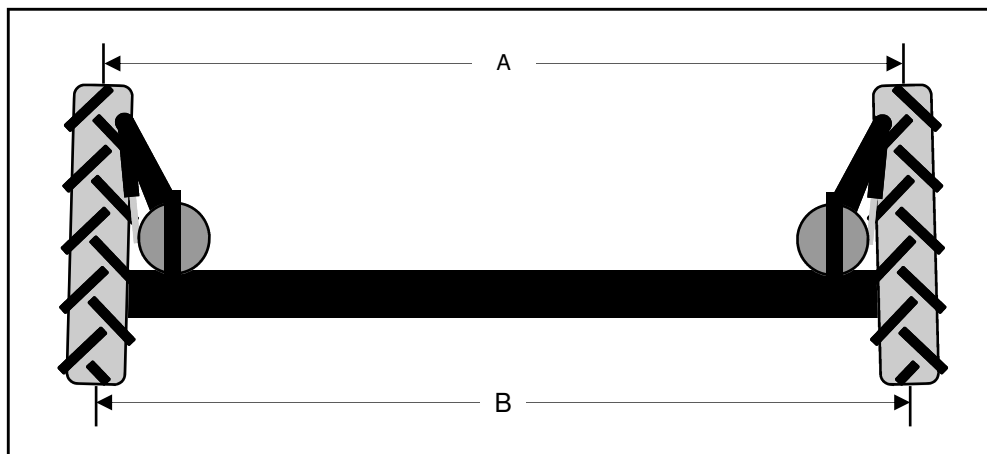

FIG 8.58
4. Move left and right tires evenly until difference in dimension "A" and "B" (fig. 8.58) are within specified range.